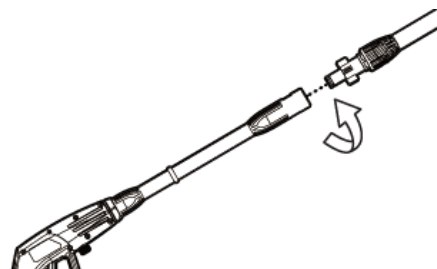

Fig.5
5. ASSMEBLING THE SPRAY GUN (Fig.5)